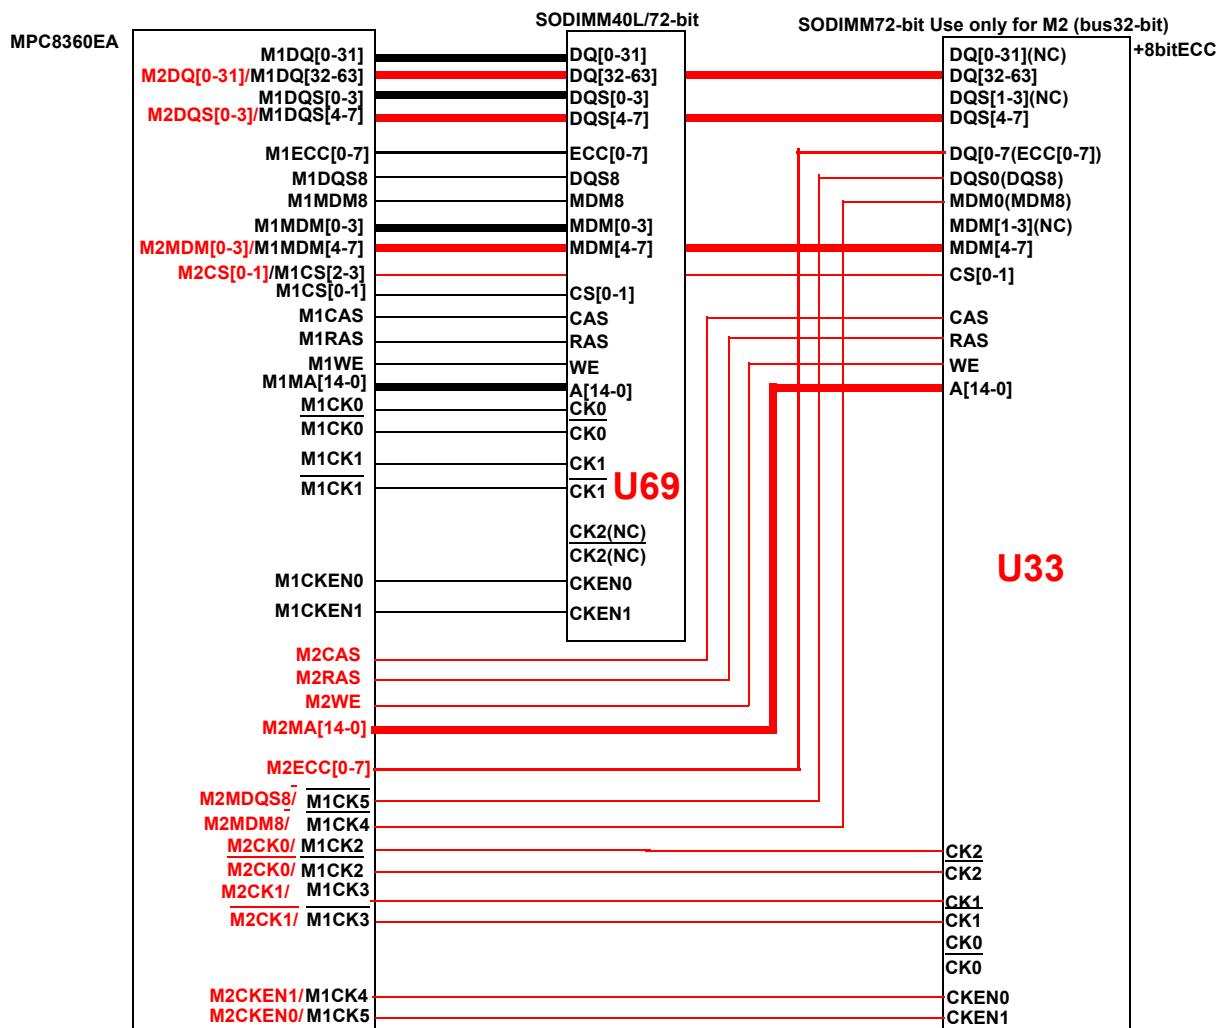

Figure 5-8. DDR Connections Block Diagram
- **2 x 40bit** (32bit data, 8bit ECC): Implementation of 2 x 40bit DDR interface is shown in Figure 5-8.